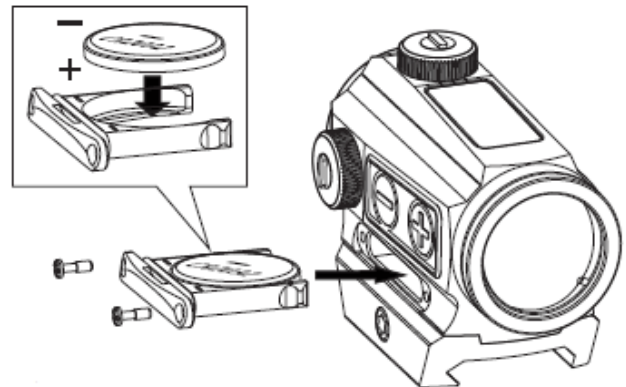

Fig 2-2
- b. Battery installation (Fig 2-2):